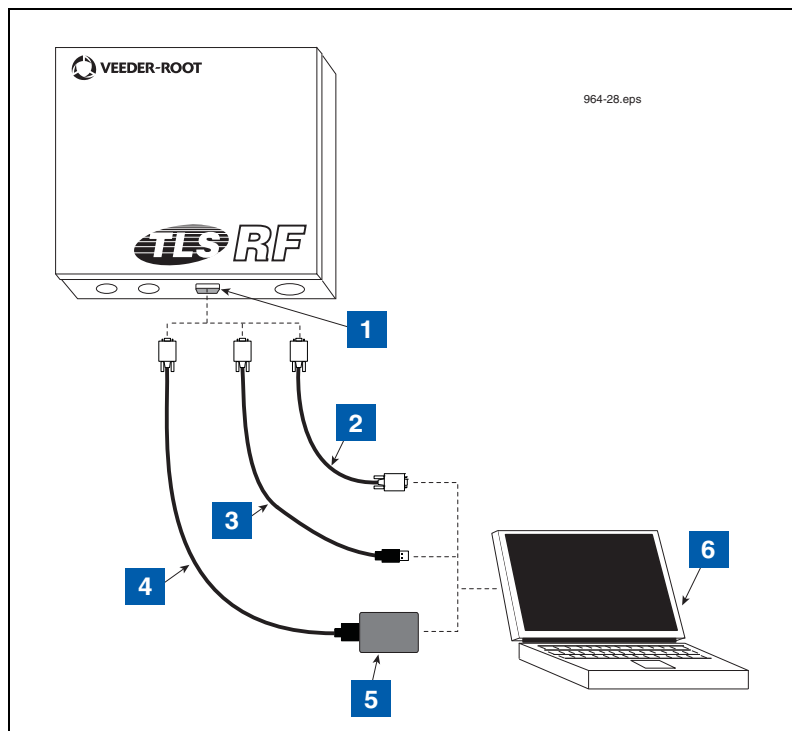

Figure 36. Laptop To TLS RF Example Connections
1. Attach your laptop to the TLS RF's RS-232 serial port (see Figure 36).
### LEGEND FOR NUMBERED BOXES IN Figure 36